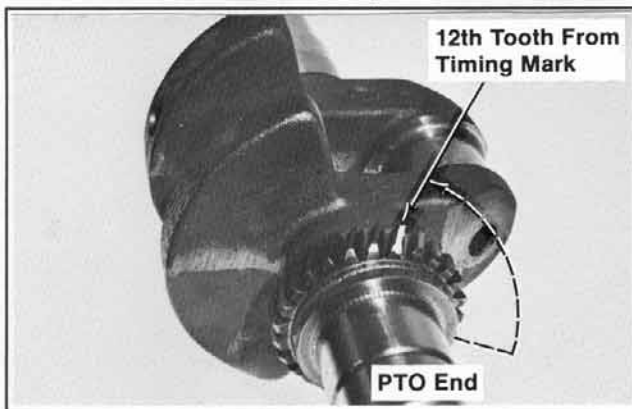

Figure 10. Marking Tooth On Crankshaft Gear.
**Crankshaft** - Locate the primary timing mark on crankshaft. While looking at the PTO end of crankshaft, start with the tooth directly below timing mark and count **twelve (12)** teeth in a **counterclockwise** direction. Mark the twelfth tooth. Refer to Figure 10.